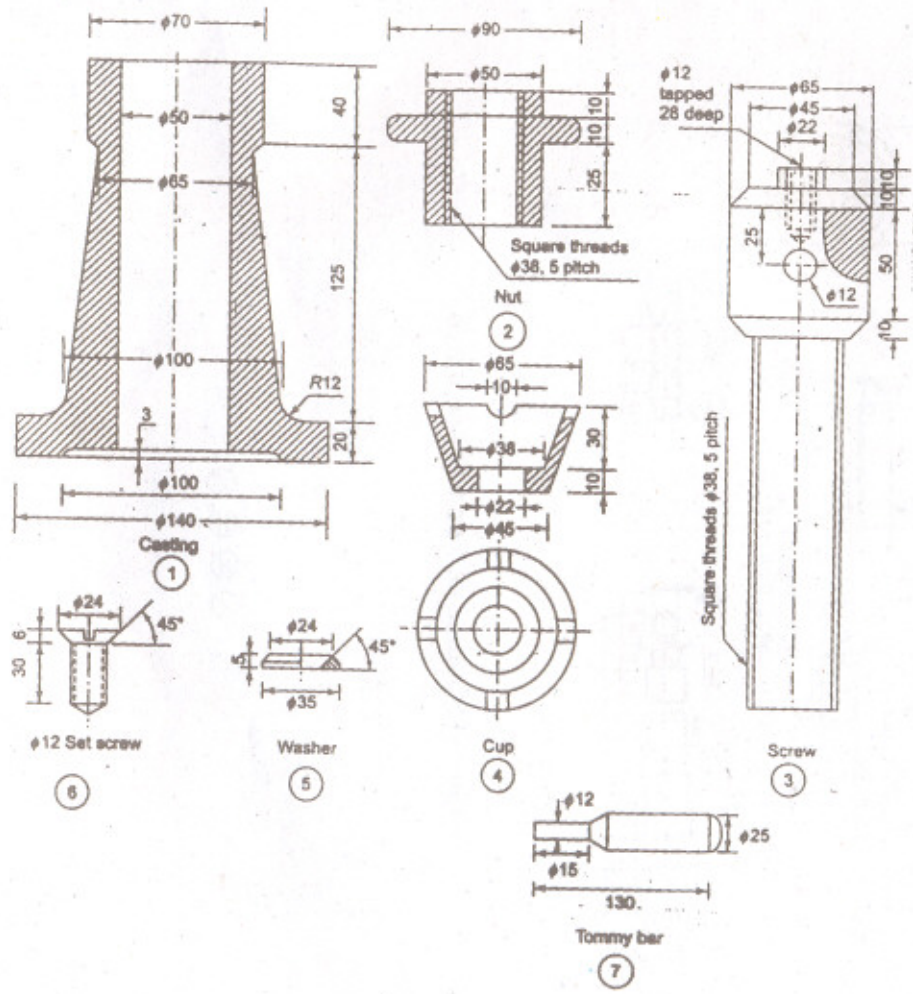

Figure-1: Details of a Screw-jack
- Q7) Draw the full sectional Front view and Top view of the screw-jack assembly as shown in Figure-1. Also make Bill of Materials.